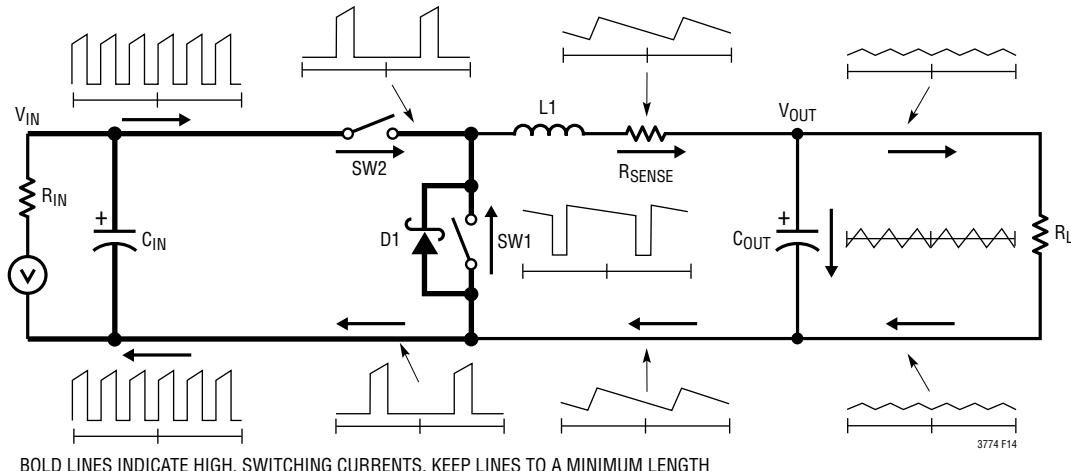

Figure 14. Branch Current Waveforms
When laying out the printed circuit board, the following checklist should be used to ensure proper operation of the IC. These items are also illustrated graphically in the layout diagram of Figure 14. Check the following in the PC layout:
7. The 47pF to 330pF ceramic capacitor between the  $I_{TH}$  pin and signal ground should be placed as close as possible to the IC. Figure 14 illustrates all branch currents in a switching regulator. It becomes very clear after studying the current waveforms why it is critical to keep the high switching current paths to a small physical size. High electric and magnetic fields will radiate from these *loops* just as radio stations transmit signals. The output capacitor ground should return to the negative terminal of the input capacitor and not share a common ground path with any switched current paths. The left half of the circuit gives rise to the *noise* generated by a switching regulator. The ground terminations of the synchronous MOSFET and Schottky diode should return to the bottom plate(s) of the input capacitor(s) with a short isolated PC trace since very high switched currents are present. External OPTI-LOOP® compensation allows overcompensation for PC layouts which are not optimized but this is not the recommended design procedure.